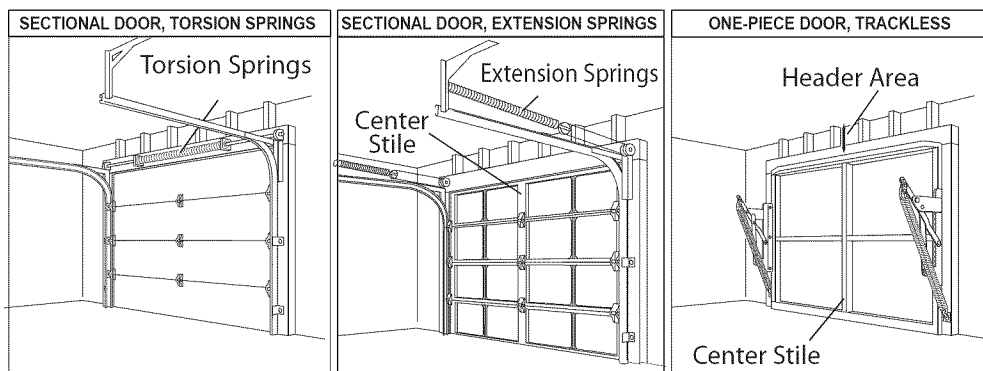

Figure 2 Note Door Type
- C** Check door type. Make a note of whether it is a sectional or a one-piece door (**Figure 2**).